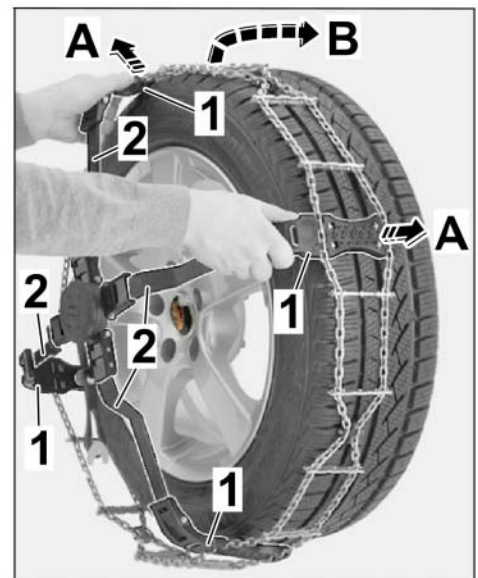

Figure 7
2.2.2 Open two adjacent plastic supports (⇒ Figure 7-A) and guide them with the chain net from above as shown ⇒ Figure 7 as far as possible over the rear wheel (⇒ Figure 7-B).